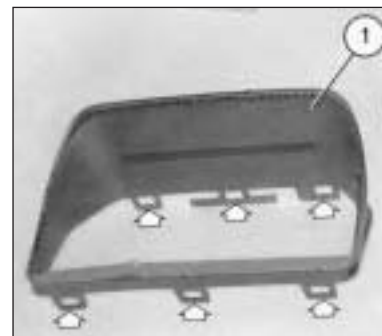

Fig. 9.4 Instrument hood cover (1) (Sec 21)
- 3 Remove the instrument hood cover by gently releasing the plastic clips (Fig. 9.4).